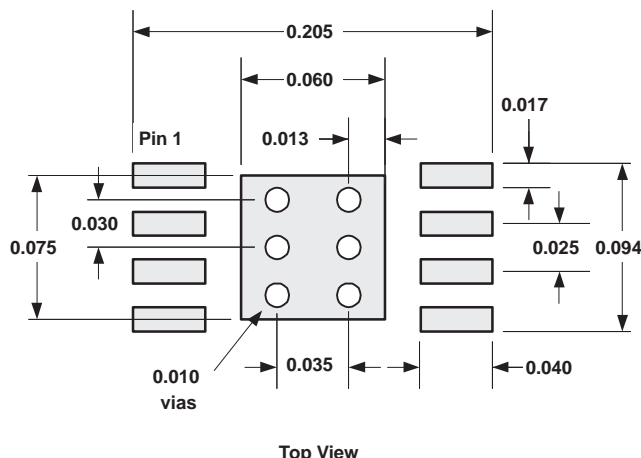

Figure 63. DGN PowerPAD PCB Etch and Via Pattern
1. Prepare the PCB with a top side etch pattern as shown in Figure 63. There should be etch for the leads as well as etch for the thermal pad.